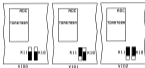

Figure 2-2 Video input selection
**Note :** The selection between the three video inputs is made by actuating the switches K10 and K11 (see figure 2-2).